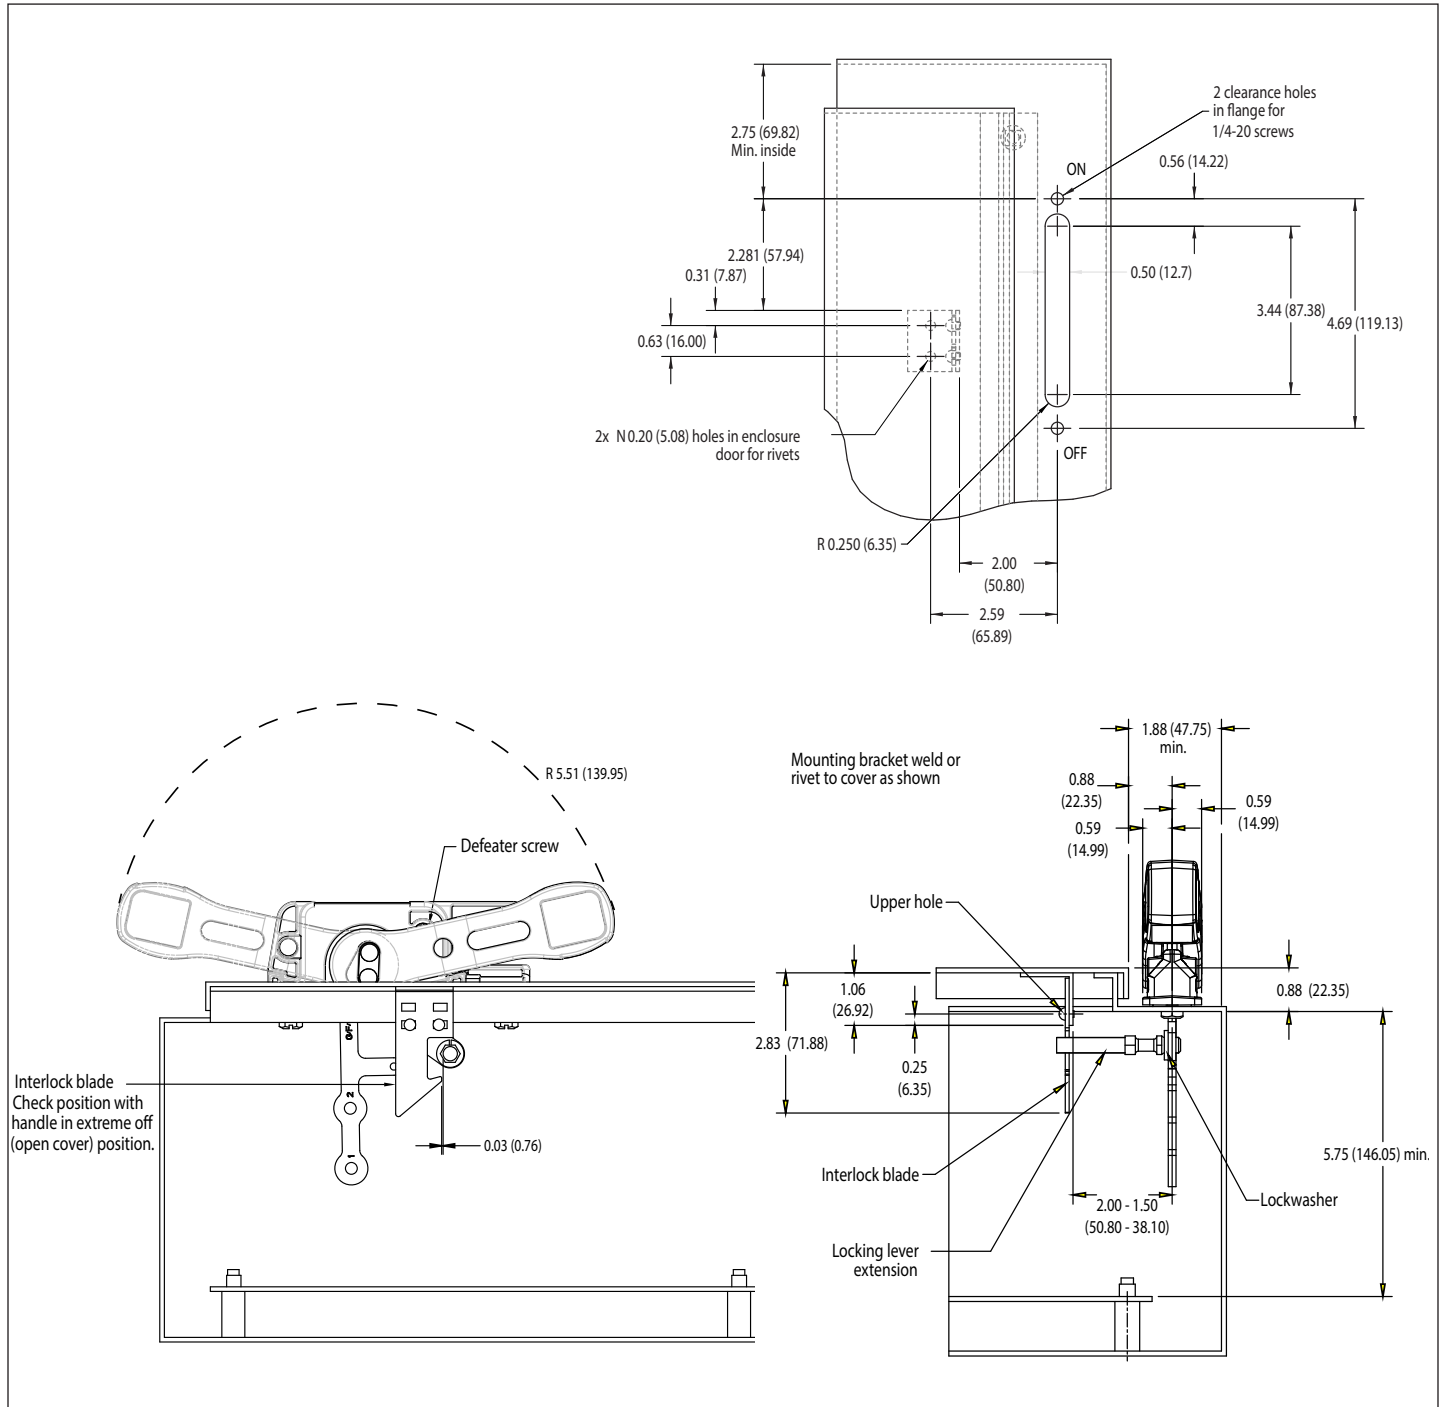

Figure 8. Flange drilling plans for handle and interlock blade mounting dimensions.
2. Install the handle to the enclosure by removing the two screws and lock washers from the outer handle mechanism. Place the outer handle mechanism with attached gasket over the enclosure cutout. (For cut-out dimensions, refer to Figure 8.) Insert the top 0.250"-20 outer handle mechanism mounting screw and lock washer through the enclosure and thread into the outer handle mechanism for a few turns, but not all the way.
11. Install the appropriate door hardware (supplied) (see Figure 8).